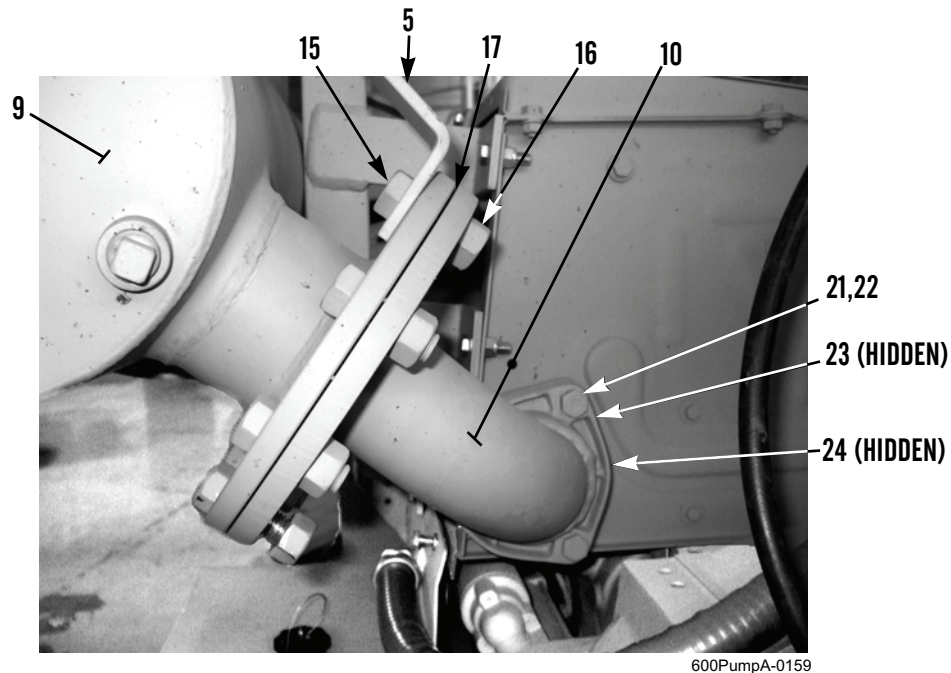

Figure 6. Muffler, Extension Pipe, and Exhaust Pipe.
2. Remove bolt (Figure 6, Item 15), nut (Figure 6, Item 16), and rear bracket (Figure 6, Item 5) from muffler (Figure 6, Item 9).
3. Remove six remaining bolts (Figure 6, Item 15), nuts (Figure 6, Item 16), and gasket (Figure 6, Item 17) from extension pipe (Figure 6, Item 10) and muffler (Figure 6, Item 9). Discard gasket.
4. Remove three bolts (Figure 6, Item 21), nuts (Figure 6, Item 22), gasket (Figure 6, Item 23), and extension pipe (Figure 6, Item 10) from exhaust pipe (Figure 6, Item 24). Discard gasket.
1. Install new gasket (Figure 6, Item 23), extension pipe (Figure 6, Item 10), three bolts (Figure 6, Item 21), and nuts (Figure 6, Item 22) on exhaust pipe (Figure 6, Item 24).
2. Install new gasket (Figure 6, Item 17), six bolts (Figure 6, Item 15), and nuts (Figure 6, Item 16) on extension pipe (Figure 6, Item 10) and muffler (Figure 6, Item 9).
3. Install rear bracket (Figure 6, Item 5) on muffler (Figure 6, Item 9) with bolt (Figure 6, Item 15) and nut (Figure 6, Item 16).